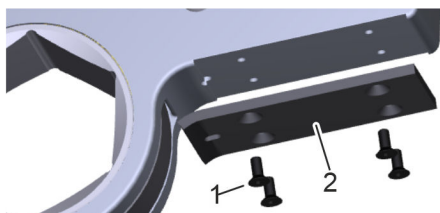

Fig. 25: Removing the bracing plate
6. ➔ Open the ratchet head. To do so, unfasten the bracing plate's four bolts (Fig. 25/1) and take off the bracing plate (Fig. 25/2).
- 12.** Install the drive unit. Push in the fastening pins until they engage. Secure the fastening pins with the stud bolts (Fig. 25).